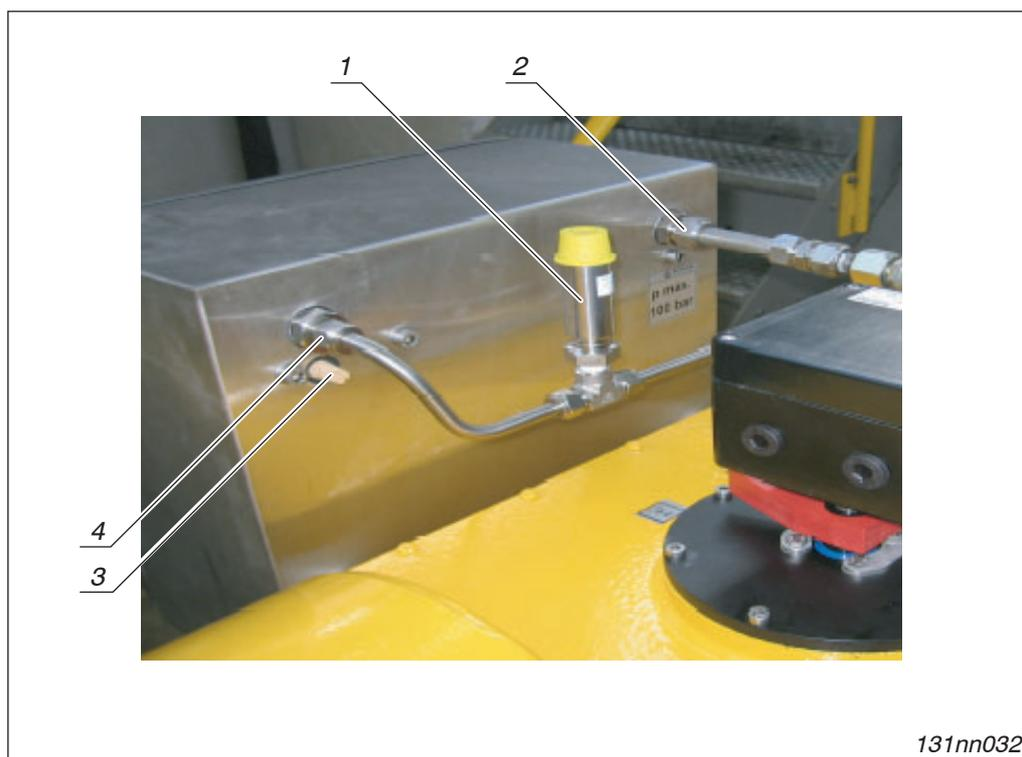

Fig. 3-11 Control cabinet of the high-pressure control system (design may vary)
3. Make sure that the relief line (→ page 3-19, fig. 3-11, item 3) of the control system is open and not blocked or clogged.